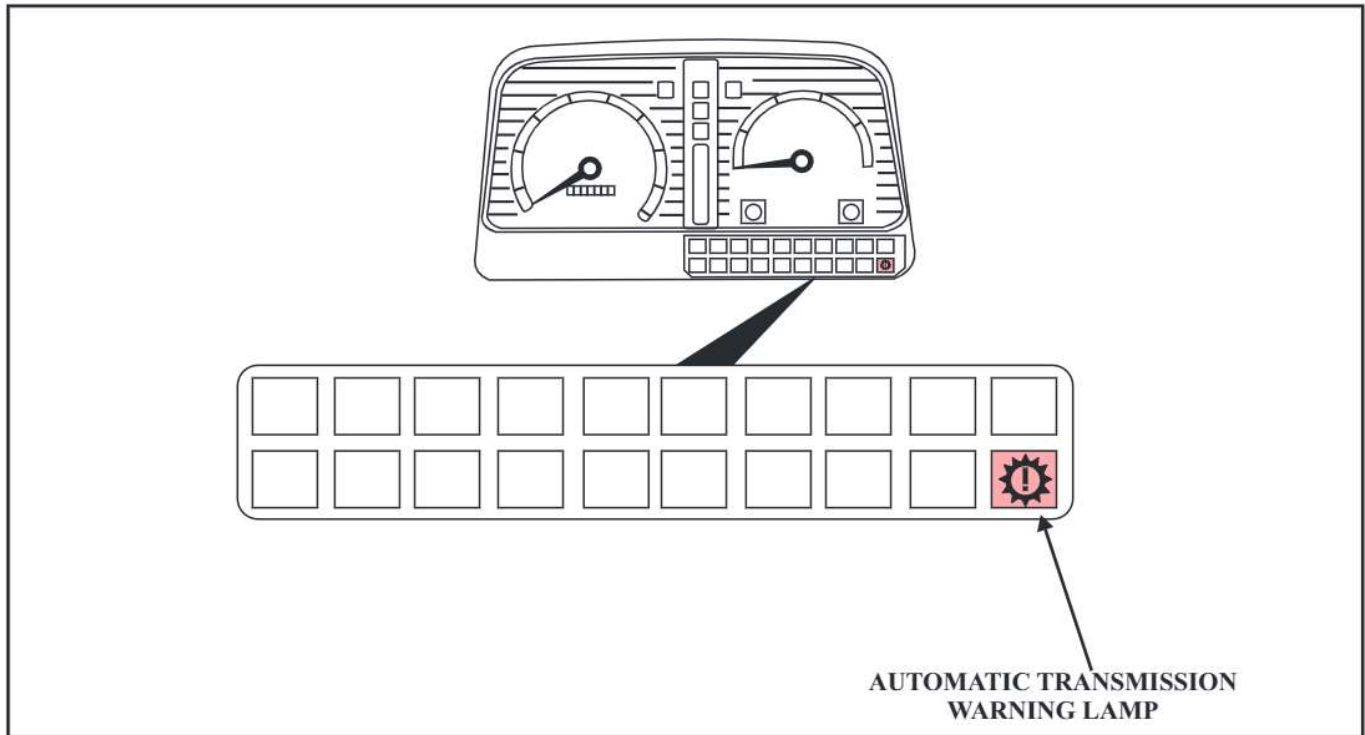
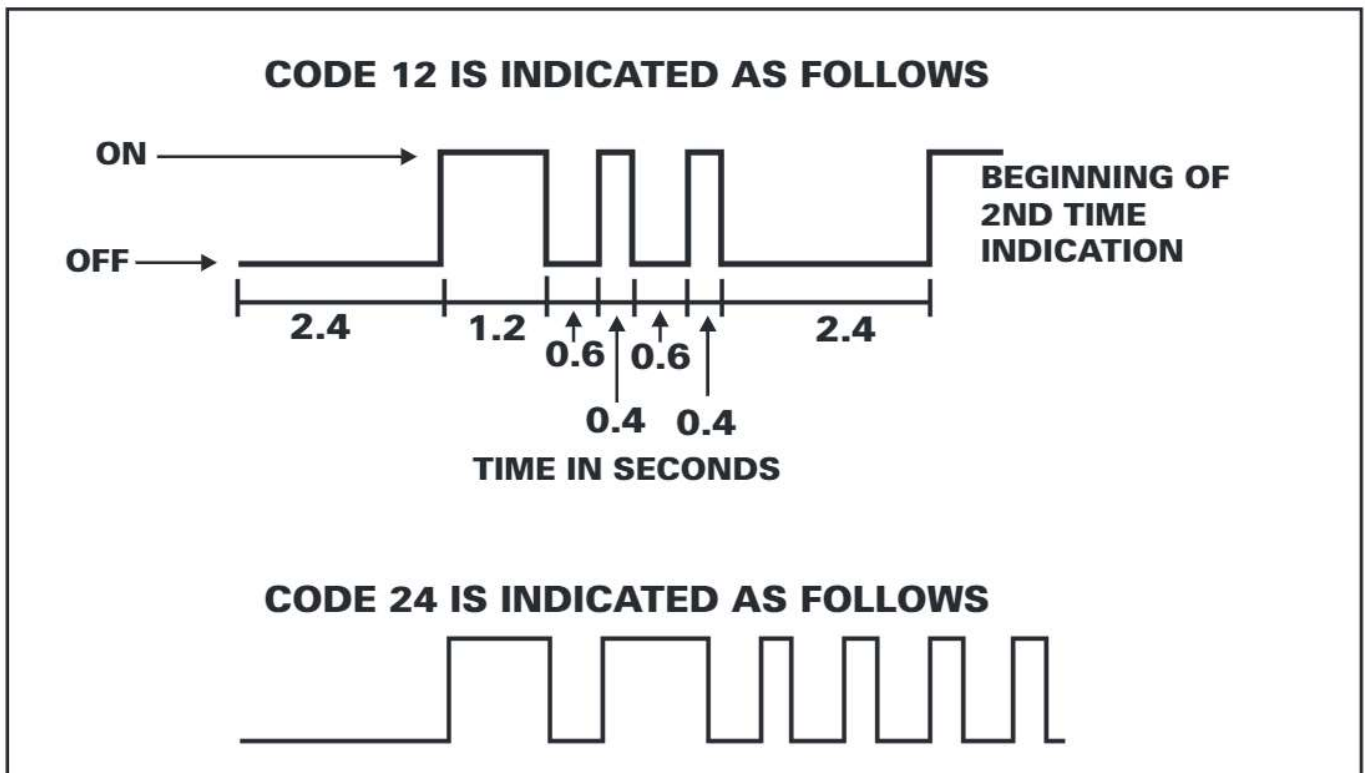

Figure 51
Figure 52
- 3 - Watch the transmission warning lamp located below the instrument cluster shown in figure 51 for the flash code pattern as seen in Figure 52.
- 3 - Watch the transmission warning lamp located below the instrument cluster shown in Figure 51 for the flash code patterns and refer to the code charts in Figures 53 and 54.
- 3 - There is a 2.4 second lamp “OFF” time period between codes. Code timing is illustrated in Figure 52. If there is more than one code stored, they will be displayed in numerical order starting with the lowest.